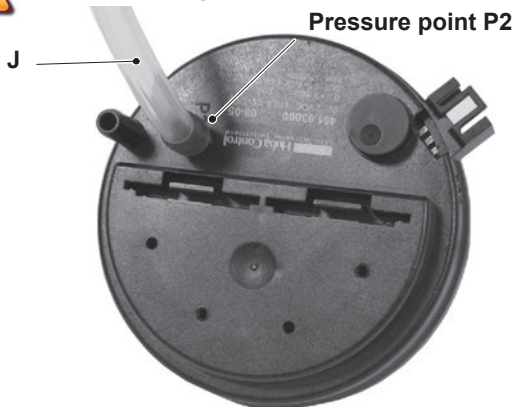

Figure 14.5
**Warning:** to correctly connect the Air pressure sensor, refer to Figure 14.5.